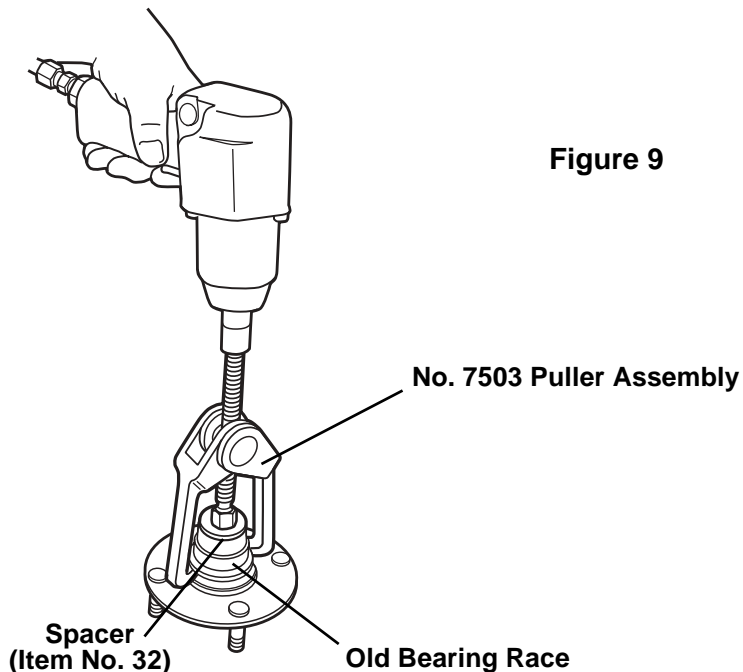

Figure 9
11. If the race from the old bearing is still stuck in the hub, use No. 7503 (No. 33) with a spacer (No. 32), as shown in Figure 9, to remove the race.